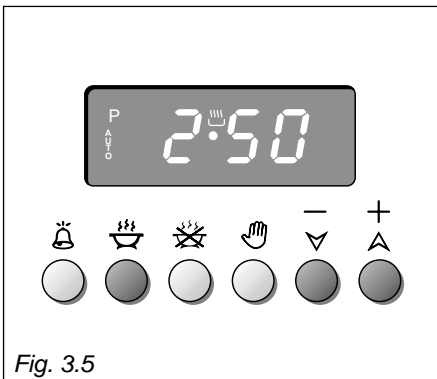

Fig. 3.5
1. Set the length of the cooking period by pushing the  button and the  () button to increase, or  () to decrease if you have passed the desired time (fig. 3.5). The **AUTO** and the  symbol will illuminate.